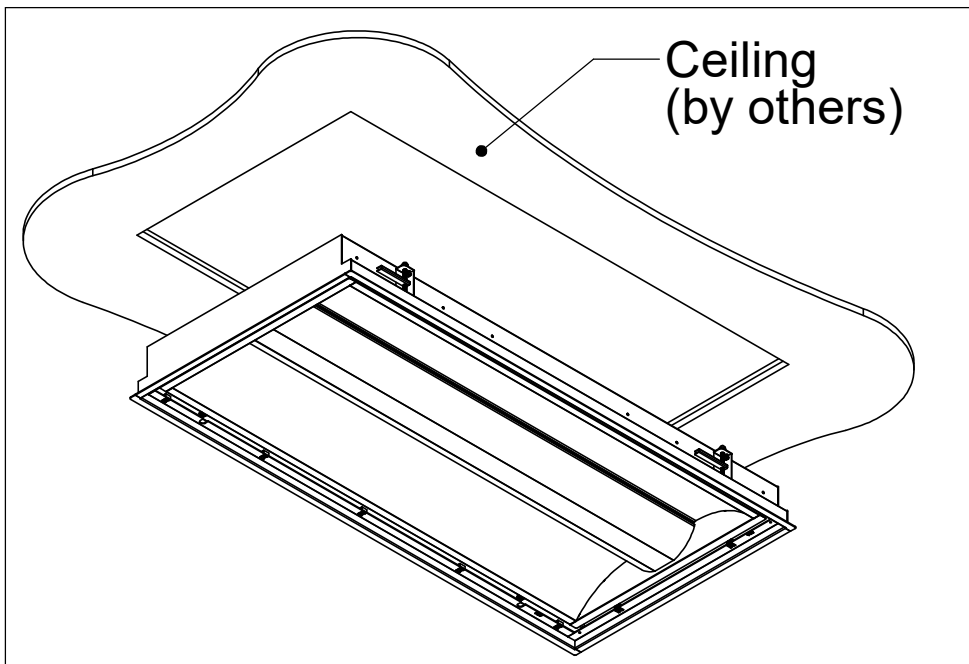

Figure 3
3. Raise Housing into ceiling (Fig. 3)